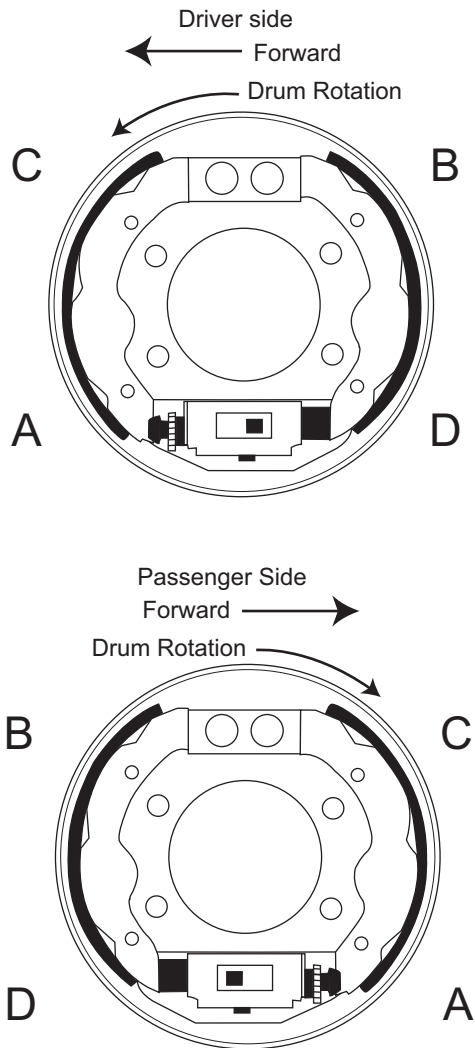

Figure 9 Brake Shoe Wear
- It is normal for the shoes to show more wear at the leading and trailing edges (Ref. Figure 9).